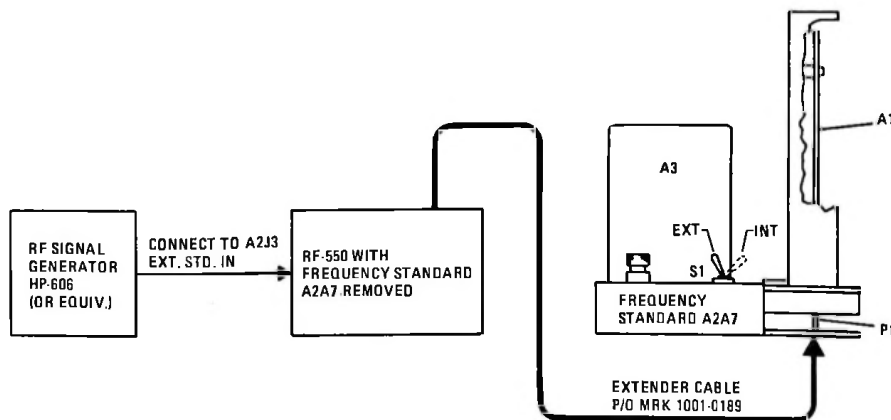

Figure 2. Reference Generator PWB Assembly Test Setup Diagram
the RF-550 is placed on a bench and test connections are made as shown in figures 2 and 3. Schematic diagrams of the PWB assemblies are shown in figure 7, sheets 1 and 2.
b. Make test connections shown in figure 2.